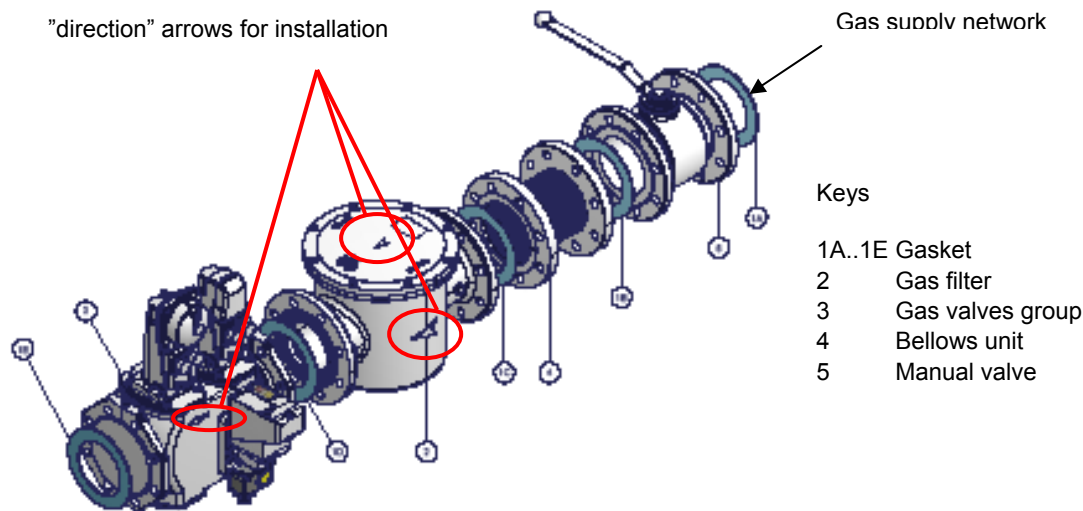

Fig. 1 - Example of gas train
1. in case of flanged joints: place a gasket (no. 1A..1E - Fig.1) between the elements.
ATTENTION: once the gas train is mounted according to the diagram on Fig.1, the gas proving test must be performed, according to the procedure set by the laws in force.
.ATTENTION: once the gas train is mounted according to the diagram on Fig.1, the gas proving test must be performed, according to the procedure set by the laws in force.